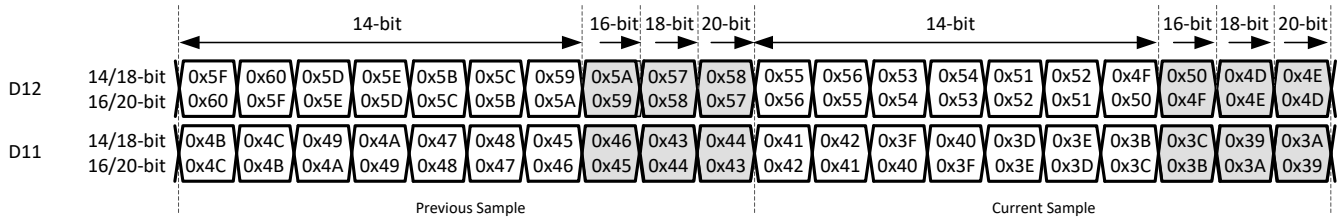

图 8-45. 2-wire output bit mapper
**2-wire mode:** in this mode both the current and the previous sample have to be used in the address space as shown in 图 8-45 below. The address order is different for 14/18-bit and 16/20-bit. Note: there are unused addresses between samples for resolution less than 20-bit (grey back ground), which can be skipped if not used.